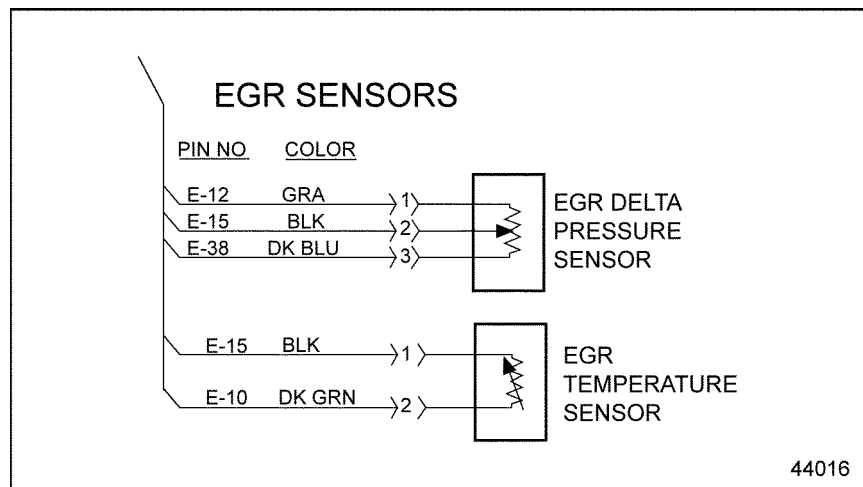

Figure 71-1 EGR Pressure Sensor Wiring
See Figure 71-1.
4. Measure resistance between cavities E-38 and E-15. See Figure 71-1.
2. Measure resistance between cavities E-38 and E-15. See Figure 71-1.